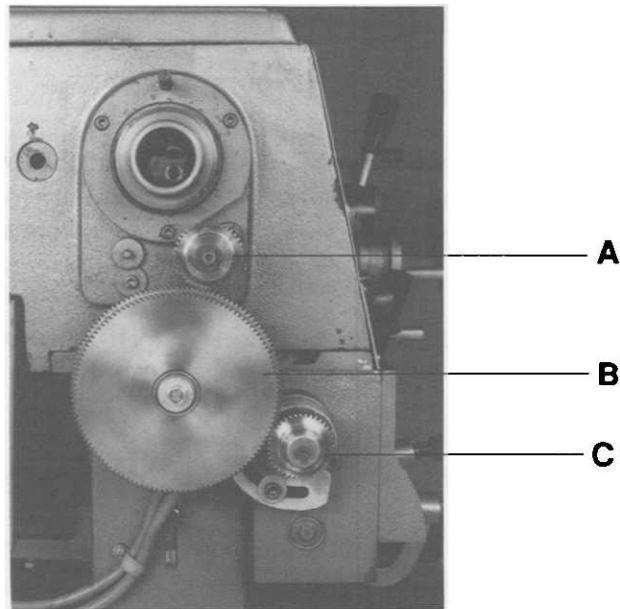

Figure 10
11. "A" in Figure 10 is the upper change gear.
14. "B" in Figure 10 is the middle combination gear (120/127 teeth).
15. "C" in Figure 10 is the lower change gear.